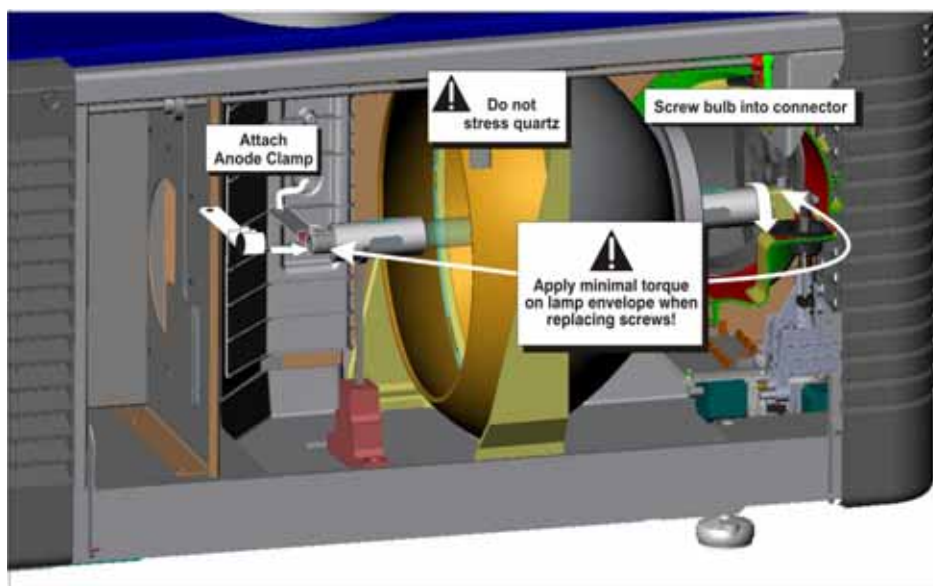

Figure 7-2 Installing the Lamp
12. Insert the threaded cathode (-) end of the lamp into the negative lamp connector nut located in the rear of the lamp compartment. **(Figure 7-2)** Using both hands, hand-tighten this end into the threaded nut.
13. Rest the anode (+) end of the lamp on the anode yoke and slip the positive lamp connector over the bulb end. **(Figure 7-2)** Using the 5mm Allen key, squeeze together with the anode clamp making sure not to place any torque on the lamp quartz tube. **Important!** Ensure that the “flat” part of the anode end of the lamp is facing up. **Warning!** Explosion hazard - Do not apply torque to the anode end of the lamp.